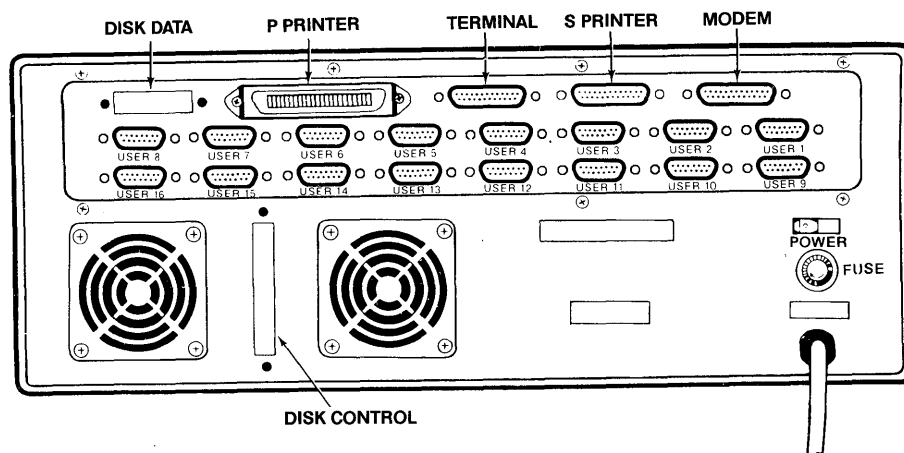

Figure 2-8 Rear Panel of the TS 816/40
1. Attach one end of an RS-232C interface cable to the pin connector labeled "TERMINAL" on the rear of the TS 816/40. (See Figure 2-8.)